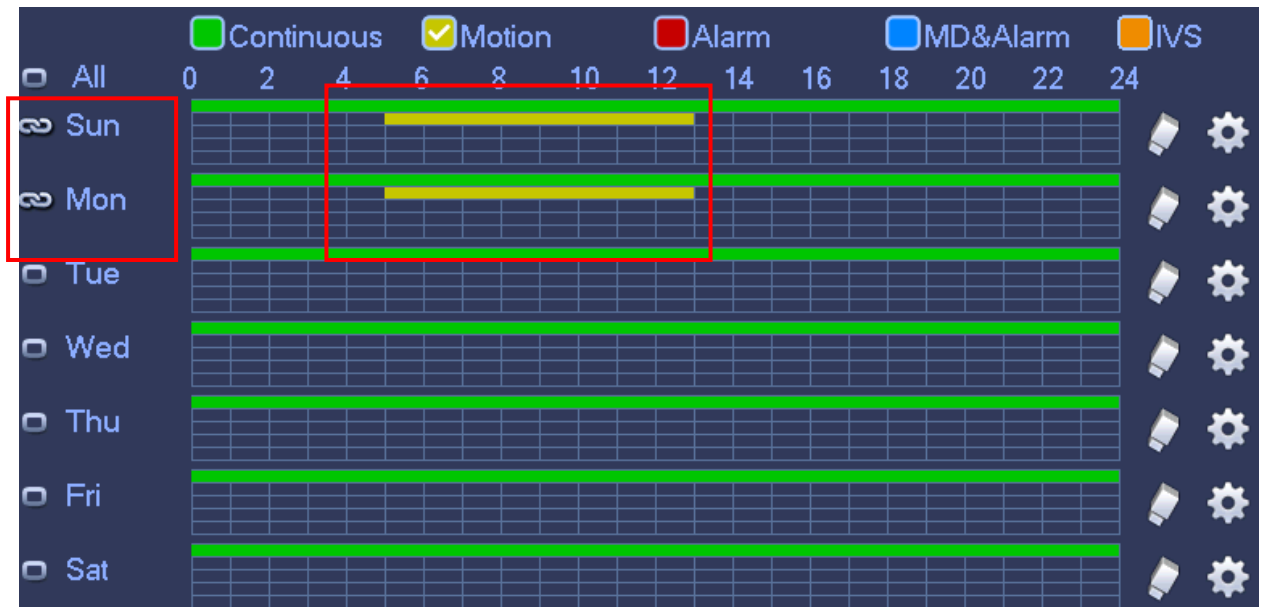

Figure 4-23
c) Please draw manually to set record period. There are six periods in one day. See Figure 4-23.